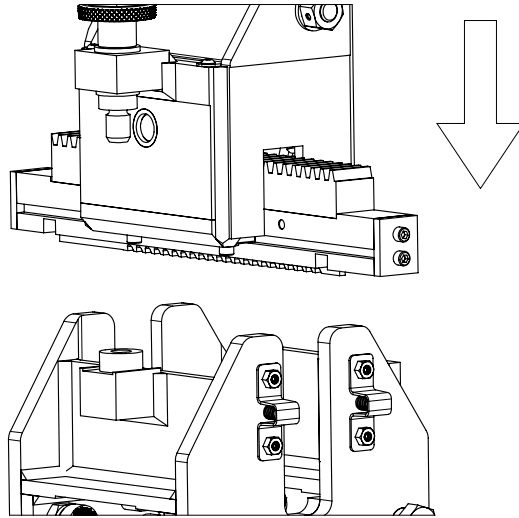

Figure 18: Lower the gearbox into the base assembly
- a. Lower the gearbox into the base assembly until the height adjustment screw engages the brass nut in the base (**Figure 18**).